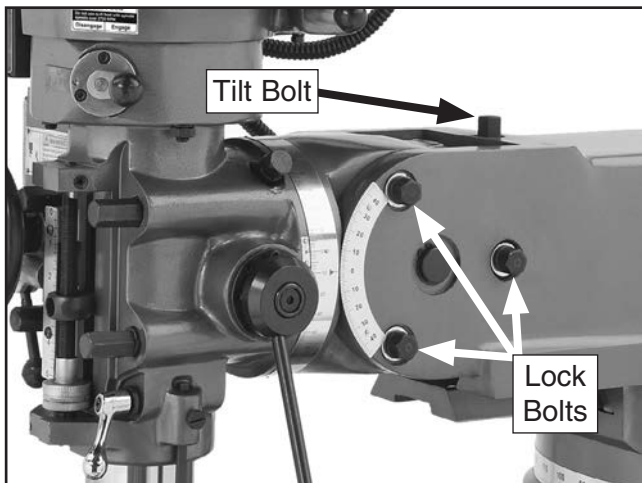

Figure 22. Head tilt controls.
2. Loosen the three tilt lock bolts shown in **Figure 22**.